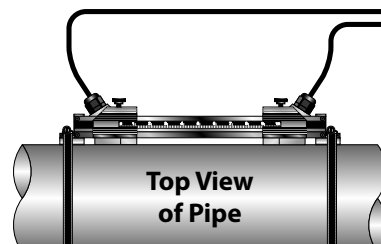

Figure 23: Mounting track installation
4. Place the first transducer in between the mounting rails near the zero point on the scale. Slide the clamp over the transducer. Adjust the clamp and transducer so the notch in the clamp aligns with the zero on the scale. See *Figure 23*.